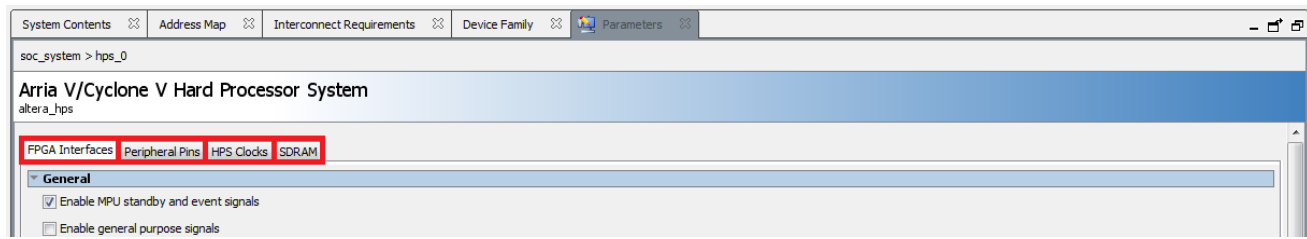

Figure 8-5. HPS Component Parameters
16. Open the HPS’ parameters and have a look around. There are 4 tabs that control various aspects of the HPS’ behaviour, as shown on Figure 8-5.